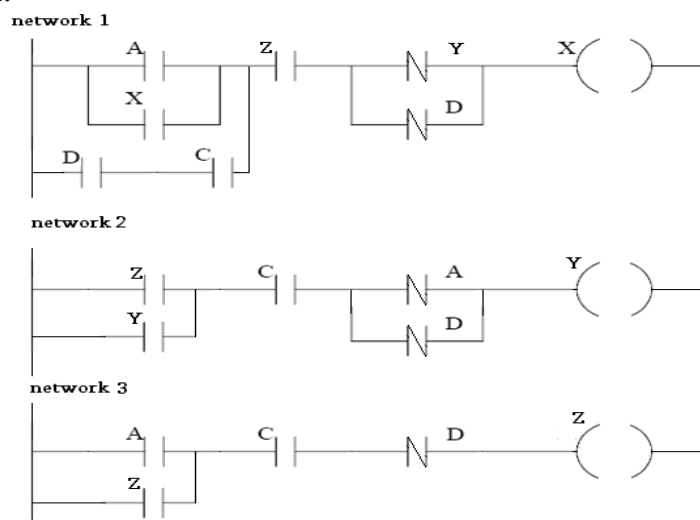

Figure 1
(b) Design FBD program for the ladder diagram given in figure 1. **07**
(b) Give Instruction List (IL) program for the ladder diagram given in figure 1. **07**